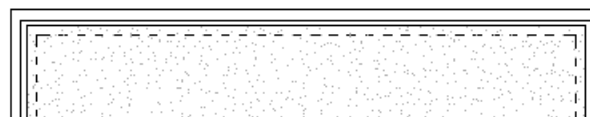

Figure 7-31
- If the *Visual Style* is set to  (Hidden Line), the slab hides any lines that are underneath it, as shown in Figure 7-31.